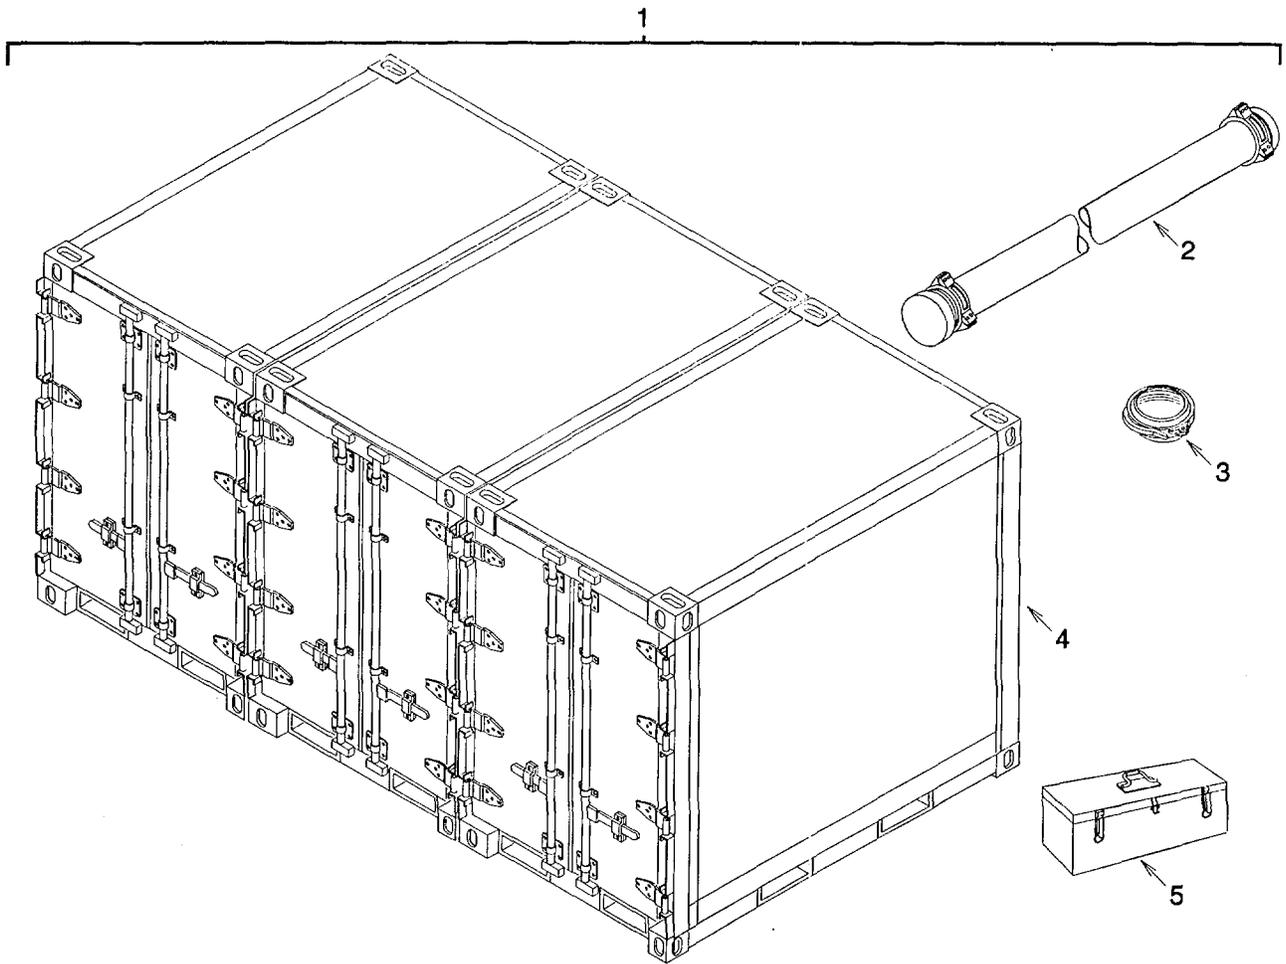

Figure C-3. Transfer Hoseline Assembly ,6 Inch
*See figure C-3, This is part of Transfer Hoseline Assembly 6 inch.